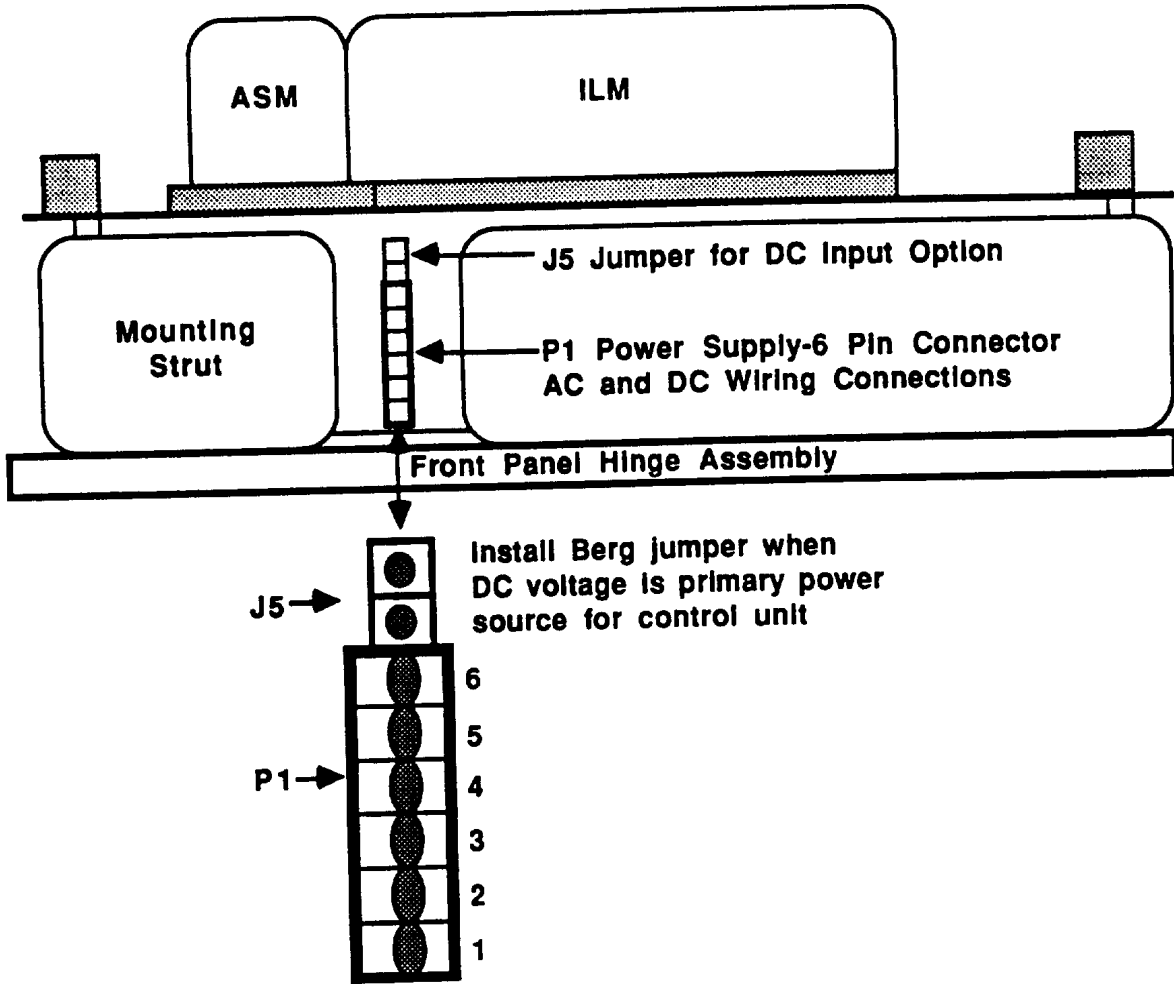

Figure 4-33. Power Connector
The Series 800 processors are powered by either an AC or DC power source. Power is supplied through a 6 pin Molex cable assembly (J1) which must be attached to the P1 input connector on the side of the front panel assembly next to the hinge. See Figure 4-33 for location of connector P1. Front panel power is supplied to processor through connector P1.
2. Adjust the nulling potentiometer (R70) for a zero or null reading on the motion meter. R70 is a 10-turn potentiometer, therefore, several turns are most likely required. A shaft lock is provided to lock the shaft in its position once nulled. Refer to Figure 4-33. If the reading will not reach zero it is possible that the sense wires are reversed at the sense filter, or the terminator positions are reversed. The null point on the meter should correlate approximately with the mid point of R70.